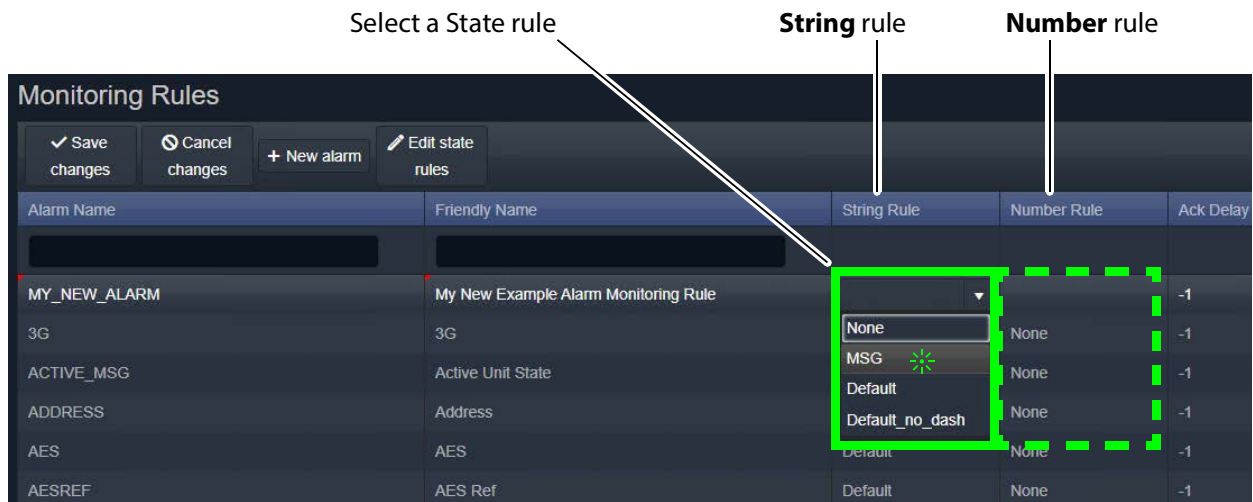

Figure 62: Select a State Rule to Use (String or Number)
- 4 Select state rule to use (for example, a **String** rule and/or a **Number** rule). See Figure 62.